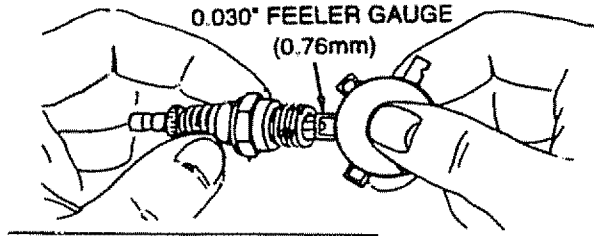

Figure-9
- Check electrode gap with wire feeler gauge and set spark plug gap to 0.030 inch (0.76 mm) if necessary (Figure-9).